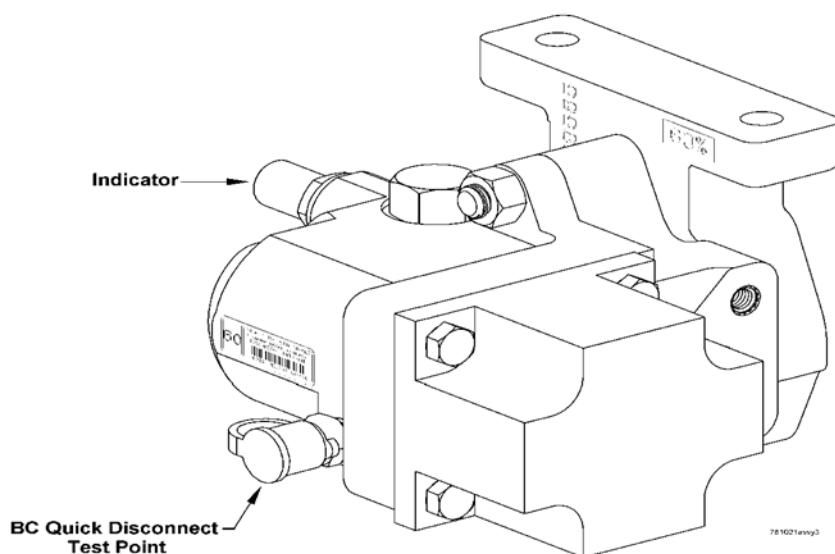

Figure 37: ELRP Proportional Valve Portion
5.14 **ELRP - LOAD PROPORTIONAL VALVE, Fig 37**